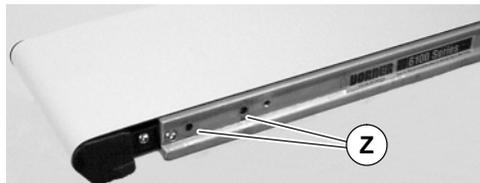

Figure 7
- On side opposite drive output shaft, remove two (2) screws (Z of Figure 7).